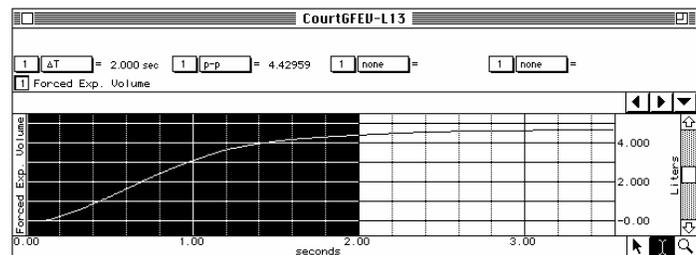

Fig. 13.19 FEV_2
6. Use the **I-beam** cursor to select the first two-second interval (Fig. 13.19).